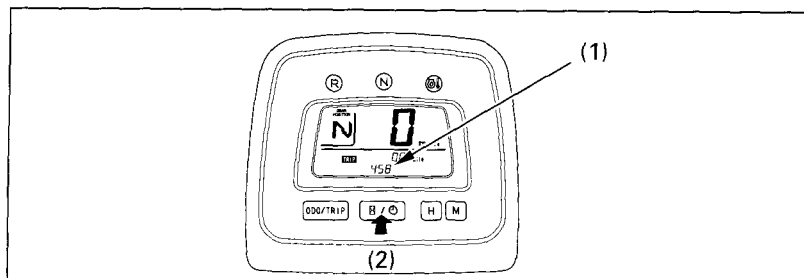

Fig. 2-20 (1) Digital clock (2) Hourmeter/digital clock select button
When selected, the digital clock (1) (Fig. 2-20) shows the time while the ignition is ON ( I ). To change the display from hourmeter to digital clock, press and release the hourmeter/digital clock select button (2).